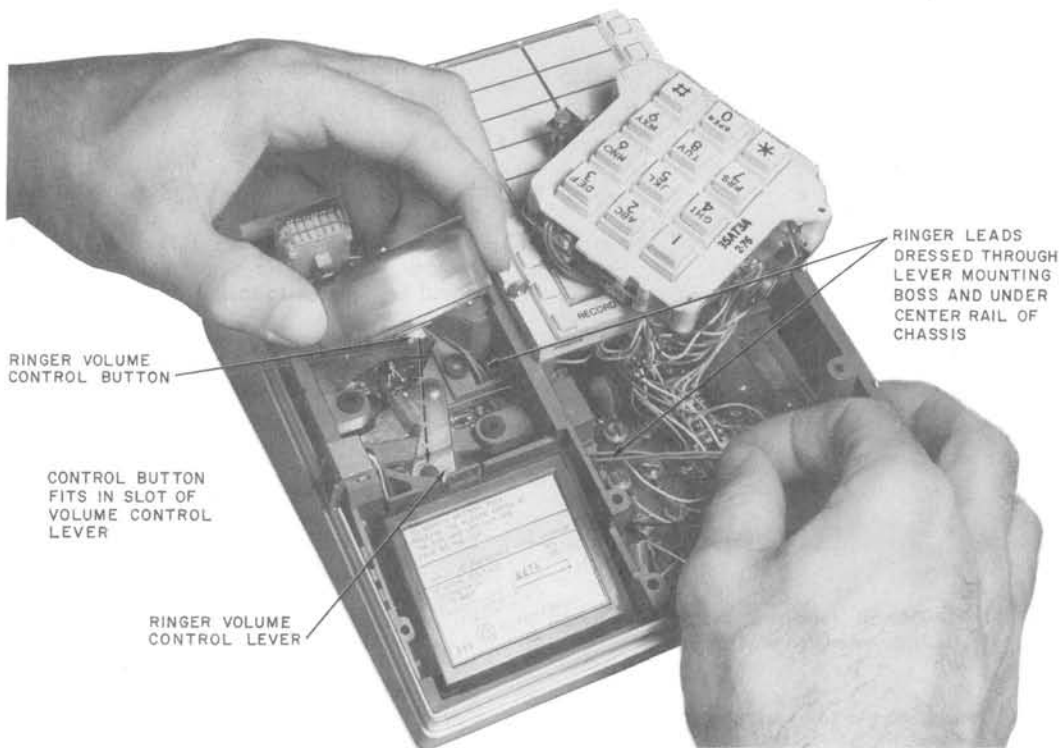

Fig. 10—Ringer Being Installed in 2960A01M Chassis With Dial Rotated onto Memory and Shield Removed
- (1) Remove the faceplate (paragraph 3.15) and place the shield aside.
- (2) Disengage the two captive screws that hold the dial in place.
- (3) Gently lift dial, rotating counterclockwise to enable frequency switches located at lower front edge of dial to clear housing. As dial rotates clear, it may be placed on memory assembly with dial buttons up as in Fig. 10.
- (4) Check that dial connections are properly seated and reassemble by reversing the procedure.
- (5) Temporarily replace the lower housing and place the set on its feet.
- (6) Remove the upper housing (paragraph 3.16).
- (7) Remove the dial [paragraph 3.18 (2) and (3)] and place aside (Fig. 10).
- (8) Disconnect the ringer leads and remove ringer.
- (9) Dress the leads of the new ringer through the ringer adjust arm mounting boss and under the center rail of the chassis, and connect to the appropriate terminals.
- (10) As the ringer is lowered into its mounting position, pull any slack in the leads through to the dial side of the center rail (Fig. 10).
- (11) Replace the dial.
- (12) Remove the lower housing. Holding the ringer in position, turn the chassis over to expose the clearance holes in the power supply board.
- (13) Attach one ringer mounting screw onto the blade of a screwdriver, (see preceding note).
| <p>(14) Insert the ringer mounting screw into one location and secure ringer.</p> <p>(15) Align the ringer adjust arm over the ringer volume control button (Fig. 10).</p> <p>(16) Replace the remaining ringer mounting screw with the "special" screwdriver and tighten ringer into place.</p> | <p>(17) Replace the housings, and shield, faceplate, and handset.</p> <p>(18) Dial appropriate code for ring-back to test the ringer.</p> |
- (1) Disconnect 2012B or 2012D transformer.
- (2) Turn battery switch to OFF.
- (3) Remove the upper housing (paragraph 3.16).
- (4) Release the battery and place aside [paragraphs 3.19 (2) and (3)].
- (5) Release the dial [paragraph 3.18 (2) and (3)] and place aside (Fig. 10).